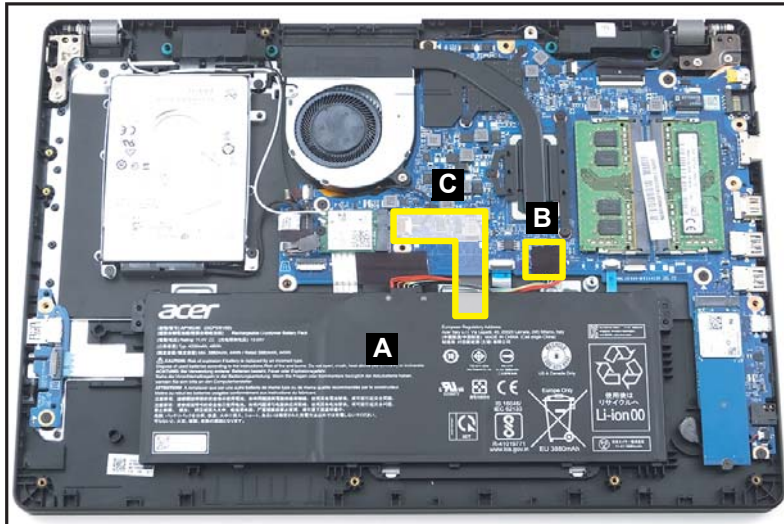

Figure 1-6. Battery Pack Removal
1. Find the battery pack (A) in the system (Figure 1-6).
2. Detach the adhesive tape (B) from the battery cable connector (Figure 1-6).
3. Detach the transparent mylar (C) securing the fan and battery cables (Figure 1-6).